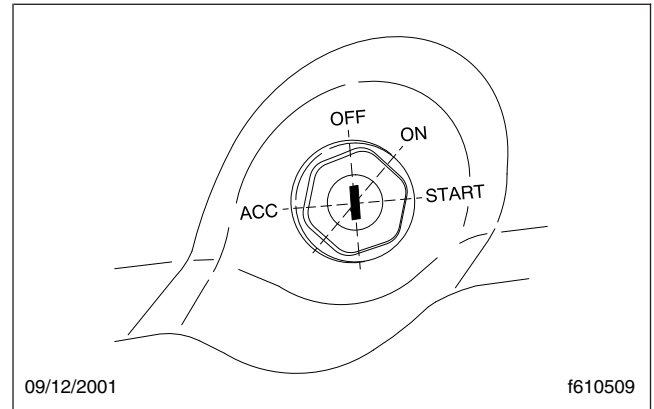

Fig. 19.1, Ignition Switch Positions
4. Ensure that the transmission shift control is in Neutral (N), Park (P), or the Park Brake (PB) position.
5. Without starting the engine, turn the ignition switch to the ON position. See Fig. 19.1. The electronic gauges on the instrumentation control unit (ICU) will complete a full sweep of their dials, the warning and indicator lights will illuminate, and the buzzer will sound for three seconds.